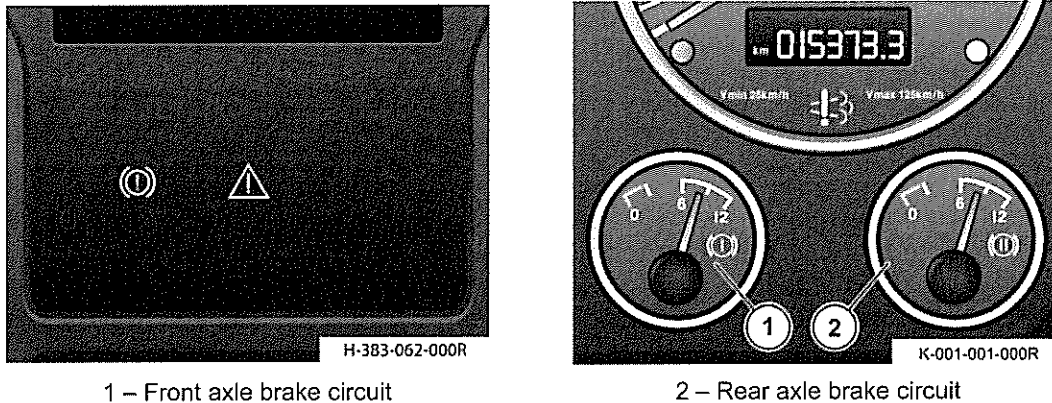

Fig 2 Electro-pneumatic brake (EPB) system/pedal brake
12 Refer to Fig 2. Pressure gauges for the front axle brake circuit (1) and rear axle brake circuit (2) indicate the reservoir pressure in the respective brake circuits.